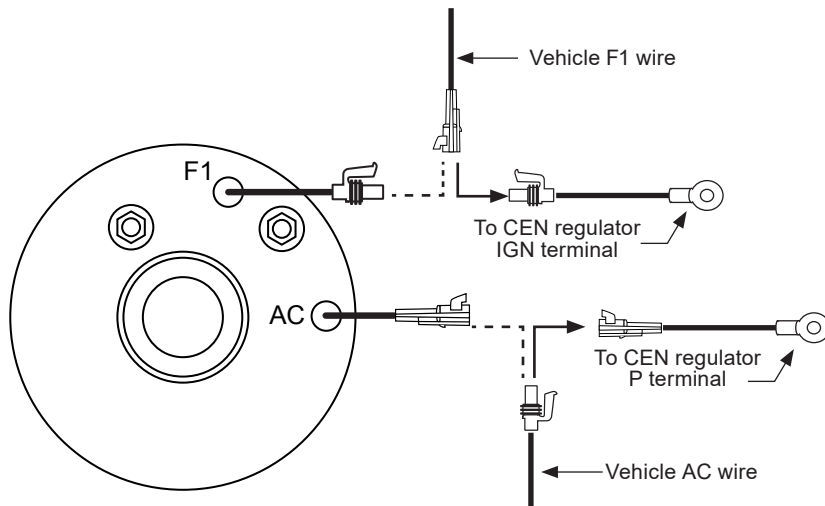

Figure 6: Reuse Existing FLD wire for IGN and AC wire from EMP or Similar
- If replacing **EMP or similar** alternator: remove connectors from F1 and AC pigtails on alternator (see Figure 6).